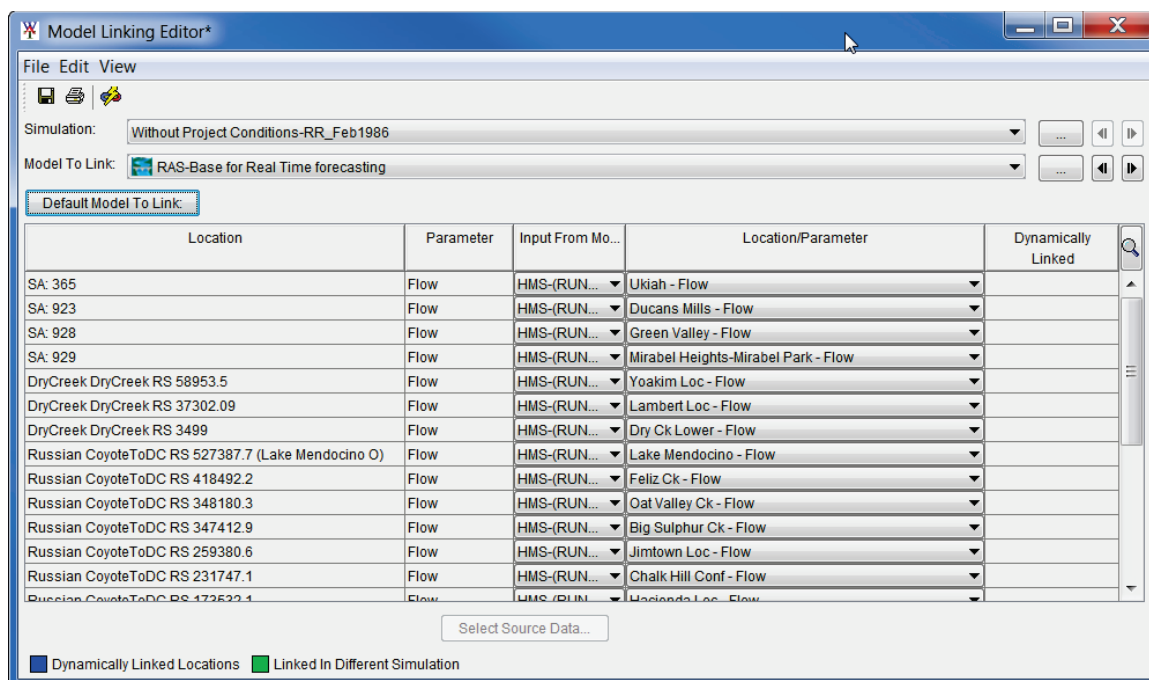

**Figure 12.7** Default Model To Link List
10. From the **Default Model to Link** list (Figure 12.7), there are three choices. This list is based on the program order that was selected for this simulation. In that program order, the HEC-HMS and HEC-ResSim software application were selected to compute before the HEC-RAS software application. The **DSS File** option allows the user to link locations to a DSS file. For this example, the user will select the HMS model alternative *HMS-(RUN)Feb\_1986*. Click **OK**, the **Select Default Model to Link** dialog box will close (Figure 12.6).